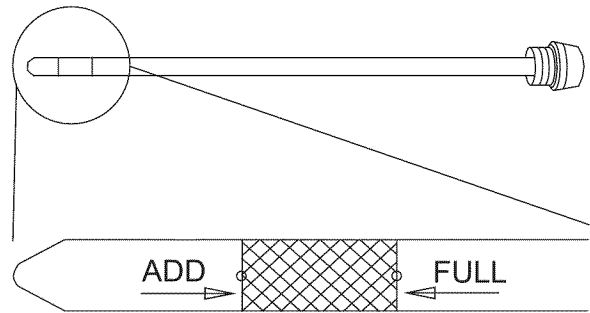

Figure 14 — Oil Fill Range
4. Verify oil level is at the FULL mark on dipstick (Figure 14).